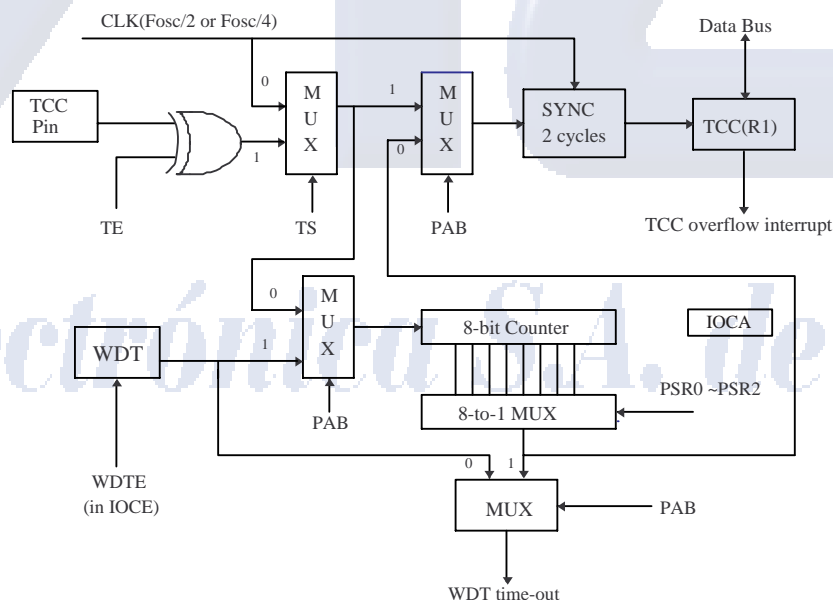

Fig. 5 Block diagram of TCC and WDT
There is an 8-bit counter available as prescaler for the TCC or WDT. The prescaler is available for the TCC only or the WDT only at the same time and the PAB bit of the CONT register is used to determine the prescaler assignment. The PSR0~PSR2 bits determine the ratio. The prescaler will be cleared by the instructions which write to TCC each time, when assigned to TCC mode. The WDT and prescaler, when assigned to WDT mode, will be cleared by the “WDTC” and “SLEP” instructions. Fig.5 depicts the circuit diagram of TCC/WDT.
- R1 (TCC) is an 8-bit timer/counter. The clock source of TCC can be internal clock or external clock input (edge selectable from TCC pin). If TCC signal source is from internal clock, TCC will increase by 1 in every instruction cycle (without prescaler). Refer to Fig.5, $CLK = F_{osc}/2$ or $CLK = F_{osc}/4$ is depended on the CODE option bit CLKS. $CLK = F_{osc}/2$ if CLKS bit is “0”, and $CLK = F_{osc}/4$ if CLKS bit is “1”. If TCC signal source is from external clock input, TCC will increase by 1 on every falling edge or rising edge of TCC pin.